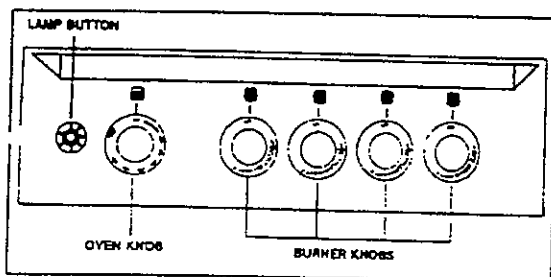

Figure 7
- The surface burners are controlled by knobs located on control panel at front side of the appliance, as seen in Figure 7.
- The oven is controlled by a knob located at left side of control panel. (See Figures 7 & 8)
The switch located at the extreme left of the control panel turns the oven light on and off (See Figure 7). When the button is depressed, the light will be on (DG20CW only).